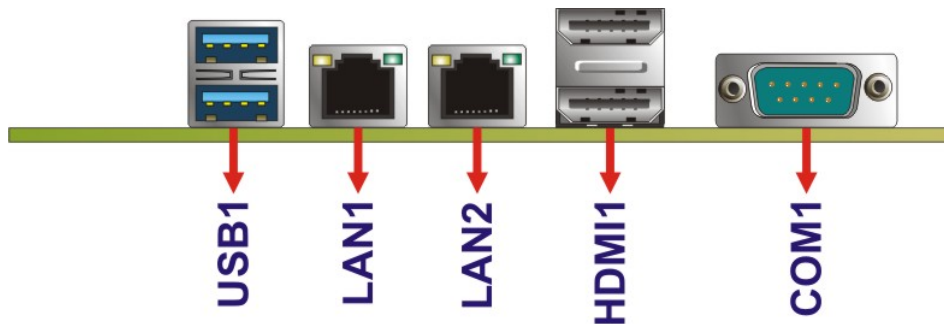

Figure 3-24: External Peripheral Interface Connector
Figure 3-24 shows the WAFER-BW external peripheral interface connector (EPIC) panel. The EPIC panel consists of the following:
- CN Location:** See **Figure 3-24**
CN Location: See **Figure 3-24**